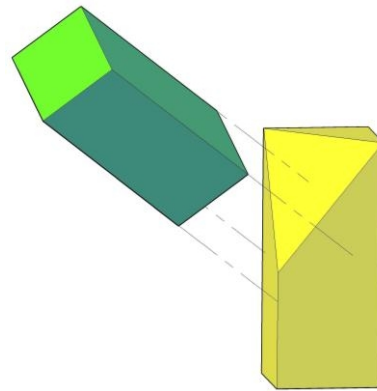
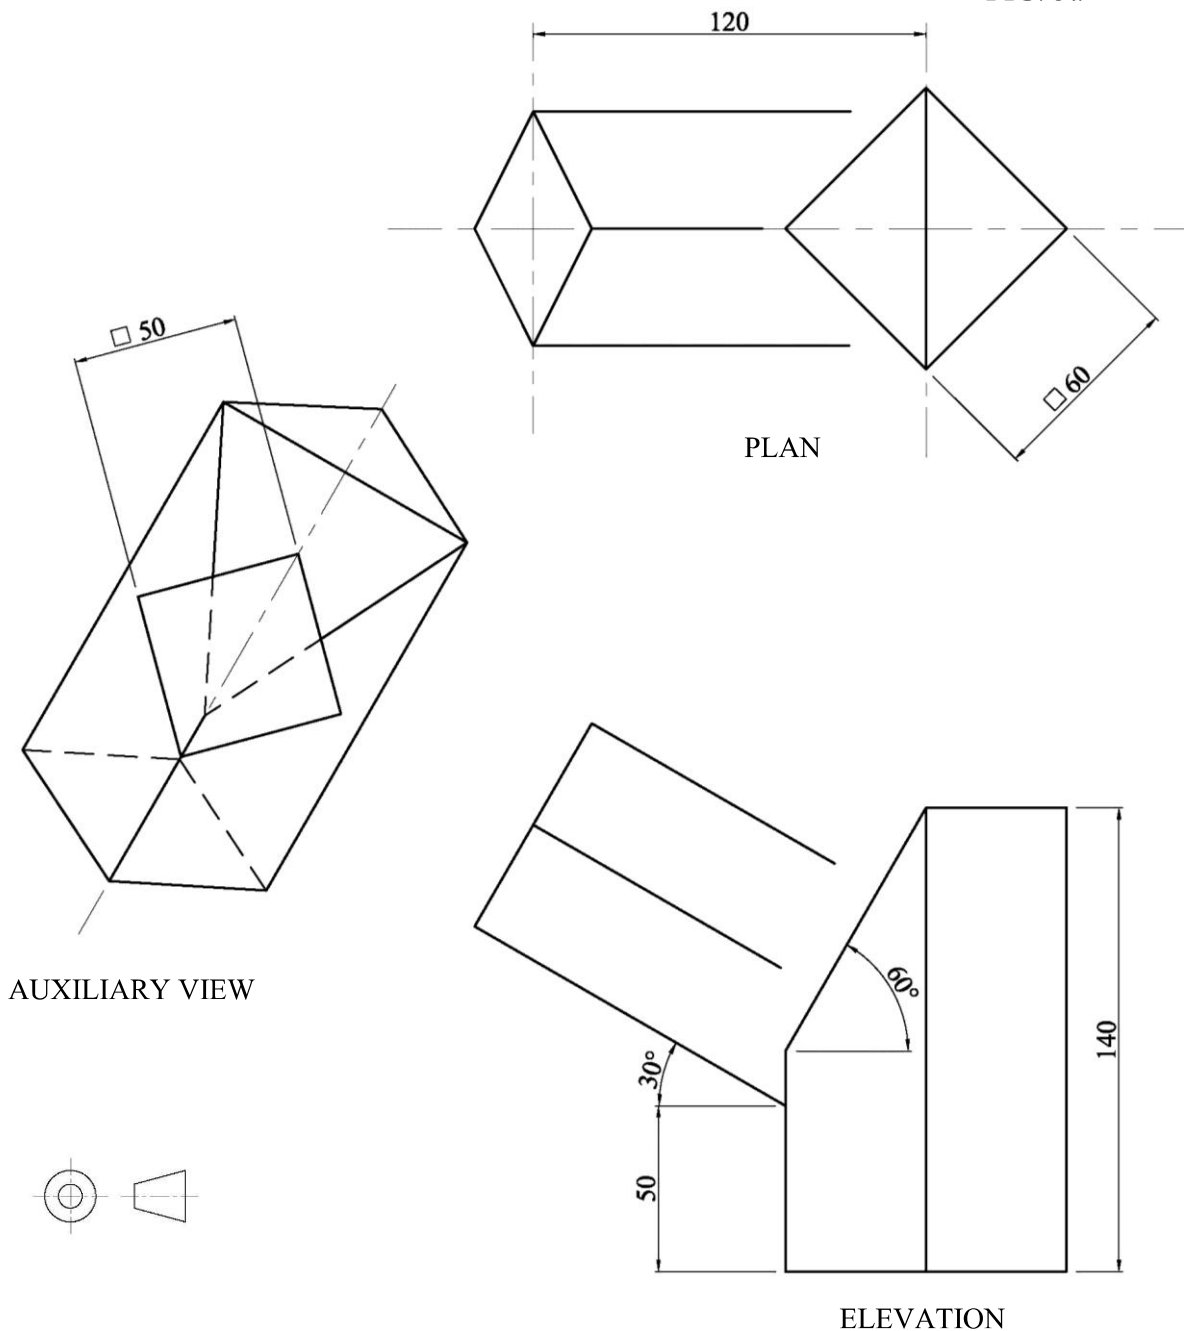

FIG. 3a
FIG. 3b
A sectioned square prism resting on its base is shown in Figure 3a. Details of the section are shown in the elevation of Figure 3b. An inclined square prism is to intersect two sides of the vertical square prism.
- a) Copy, full size, the partial plan and front elevation, together with the auxiliary view showing the square prism and the edge view of the smaller prism, shown in Figure 3b.